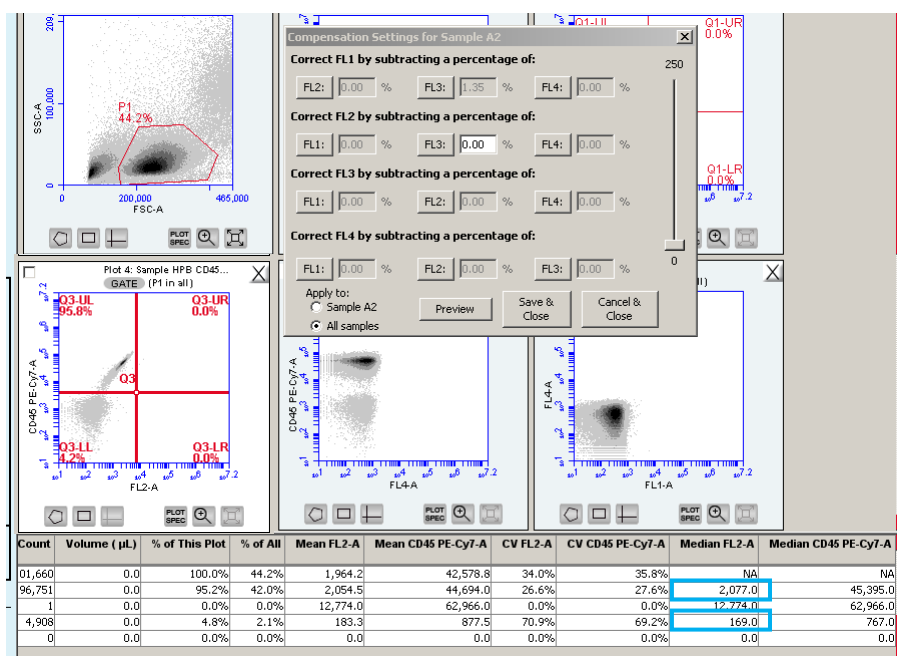

Figure 3-28 Results of selecting Plot 4, applying Quadrant markers and calculating Median fluorescence channel values.
- Leaving the Compensation Settings dialog box open, click on Plot 4, FL2-A vs. CD45 PE-Cy-7, set Quadrants as in Figure 3-28, and select **Display, Calculate Median** from the drop-down menu.